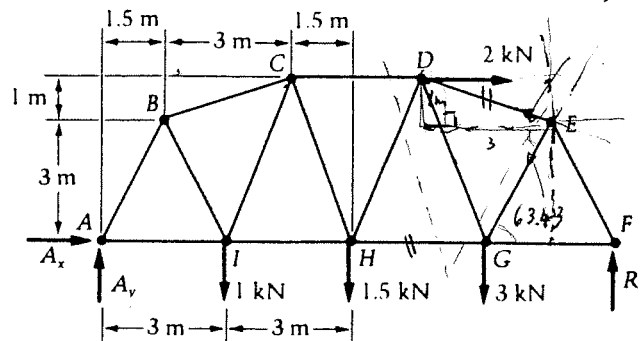

Fig. 3
35 (3) Determine the force in members  $GH$  and  $DE$  of the symmetric truss under the given loads in Fig. 3. State whether the two members are in tension or compression.